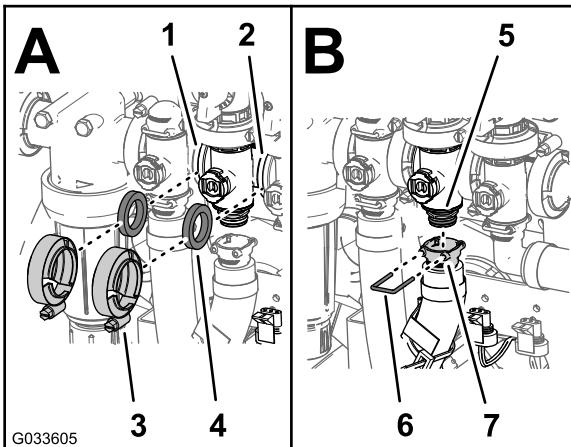

Figure 128
- Assemble the agitation bypass valve, gasket, and agitation-valve manifold with a flange clamp and tighten by hand (Figure 128).